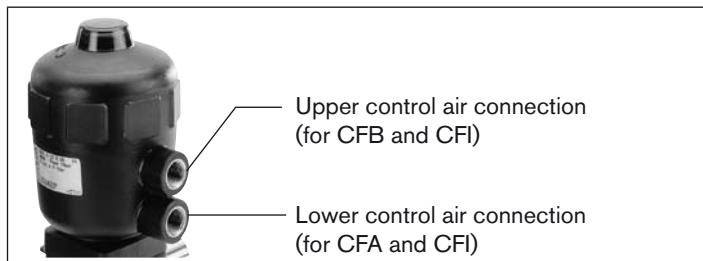

Fig. 5: Control air connection
- Pressurize lower control air connection with compressed air (value as indicated on the rating plate) (see "Fig. 5: Control air connection").
- Pressurize lower control air connection with compressed air (value as indicated on the rating plate) (see "*Fig. 5: Control air connection*").